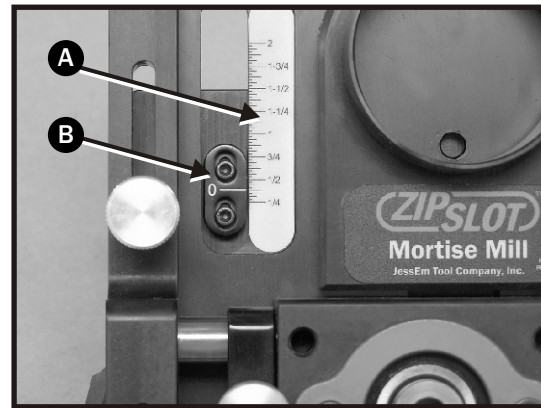

FIG. 5
2. The mortise position scales (letter "A" in Fig. 5) are used to position the mortise on the workpiece. The scale indicator blocks (letter "B" in Fig. 5) help reference the center of the mortise. For example, if you are using a 3/4" thick workpiece and you want the mortise positioned in the center, set the scale indicator blocks at 3/8" on the mortise position scales. Then re-tighten the carriage plate adjustment knobs to secure the carriage plate in the desired position.